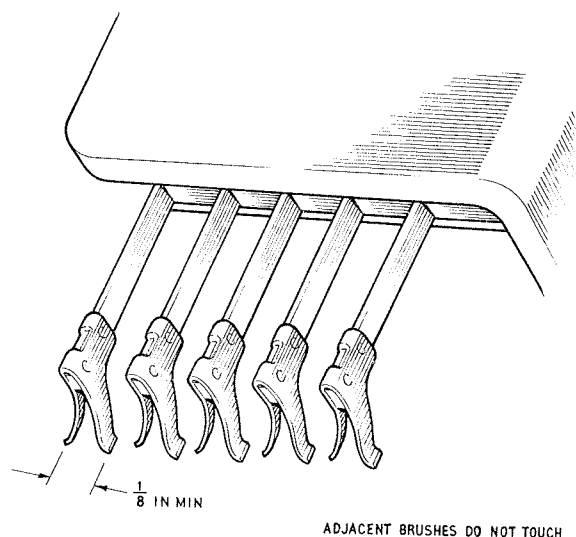

FIG. 5
5.2 Self-feed Type The tips of the two springs of each brush should be set outwards so that there is a space of not less than $\frac{1}{8}$ in between their tips and so that the springs of adjacent brushes do not touch (see Fig 5). The splay of the springs should be as even as possible.